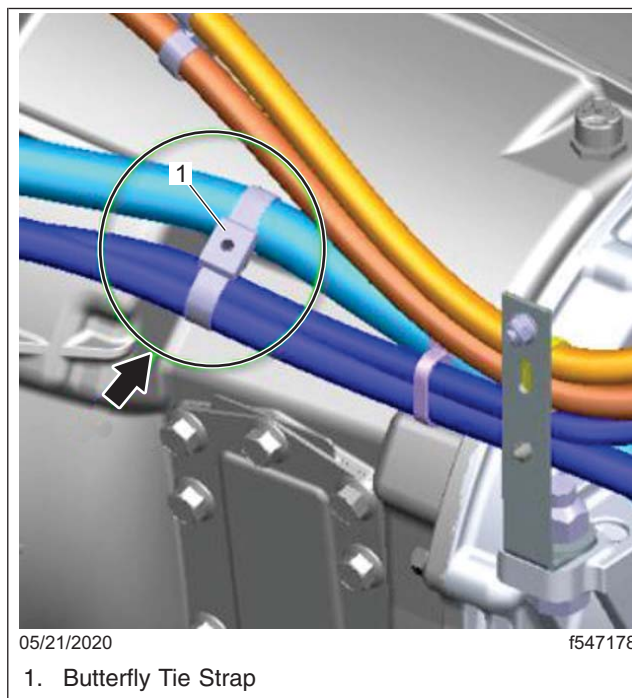

Fig. 6, LH Single Fuel Tank
Route the transmission harness together with the fuel lines using butterfly tie straps (TYC DCT110HR). See Fig. 6.
1. Use the coolant diesel exhaust fluid (DEF) lines to route the harness with a butterfly tie strap (TYC DCT110HIR) similar to Fig. 6.